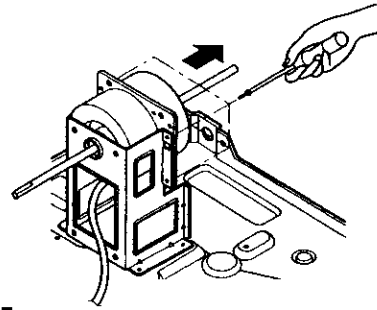

Figure 65
5. Remove the 4 screws which fasten the motor. (See Figure 65)